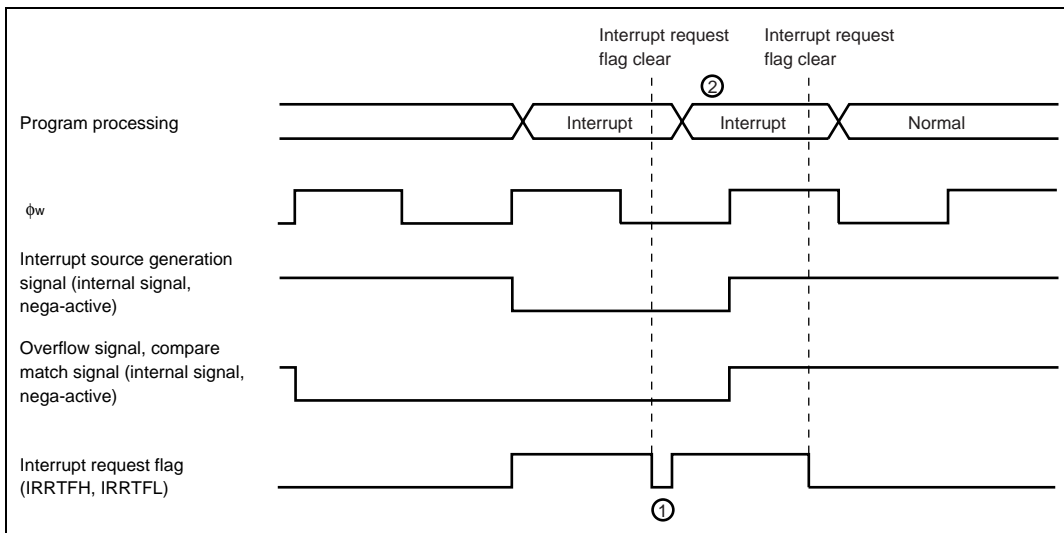

Figure 9.6 Clear Interrupt Request Flag when Interrupt Source Generation Signal Is Valid
Clear Timer FH, Timer FL Interrupt Request Flags (IRRTFH, IRRTFL), Timer Overflow Flags H, L (OVFH, OVFL), and Compare Match Flags H, L (CMFH, CMFL): When $\phi_w/4$ is selected as the internal clock, “Interrupt source generation signal” will be operated with ϕ_w and the signal will be outputted with ϕ_w width. And, “Overflow signal” and “Compare match signal” are controlled with 2 cycles of ϕ_w signals. Those signals are outputted with 2 cycles width of ϕ_w (figure 9.6)
In active (high-speed, medium-speed) mode, even if you cleared interrupt request flag during the term of validity of “Interrupt source generation signal”, same interrupt request flag is set. (1 in figure 9.6) And, the timer overflow flag and compare match flag cannot be cleared during the term of validity of “Overflow signal” and “Compare match signal”.
For interrupt request flag is set right after interrupt request is cleared, interrupt process to one time timer FH, timer FL interrupt might be repeated. (2 in figure 9.6) Therefore, to definitely clear interrupt request flag in active (high-speed, medium-speed) mode, clear should be processed after the time that calculated with below (1) formula. And, to definitely clear timer overflow flag and compare match flag, clear should be processed after read timer control status register F (TCSRFB) after the time that calculated with below (1) formula.